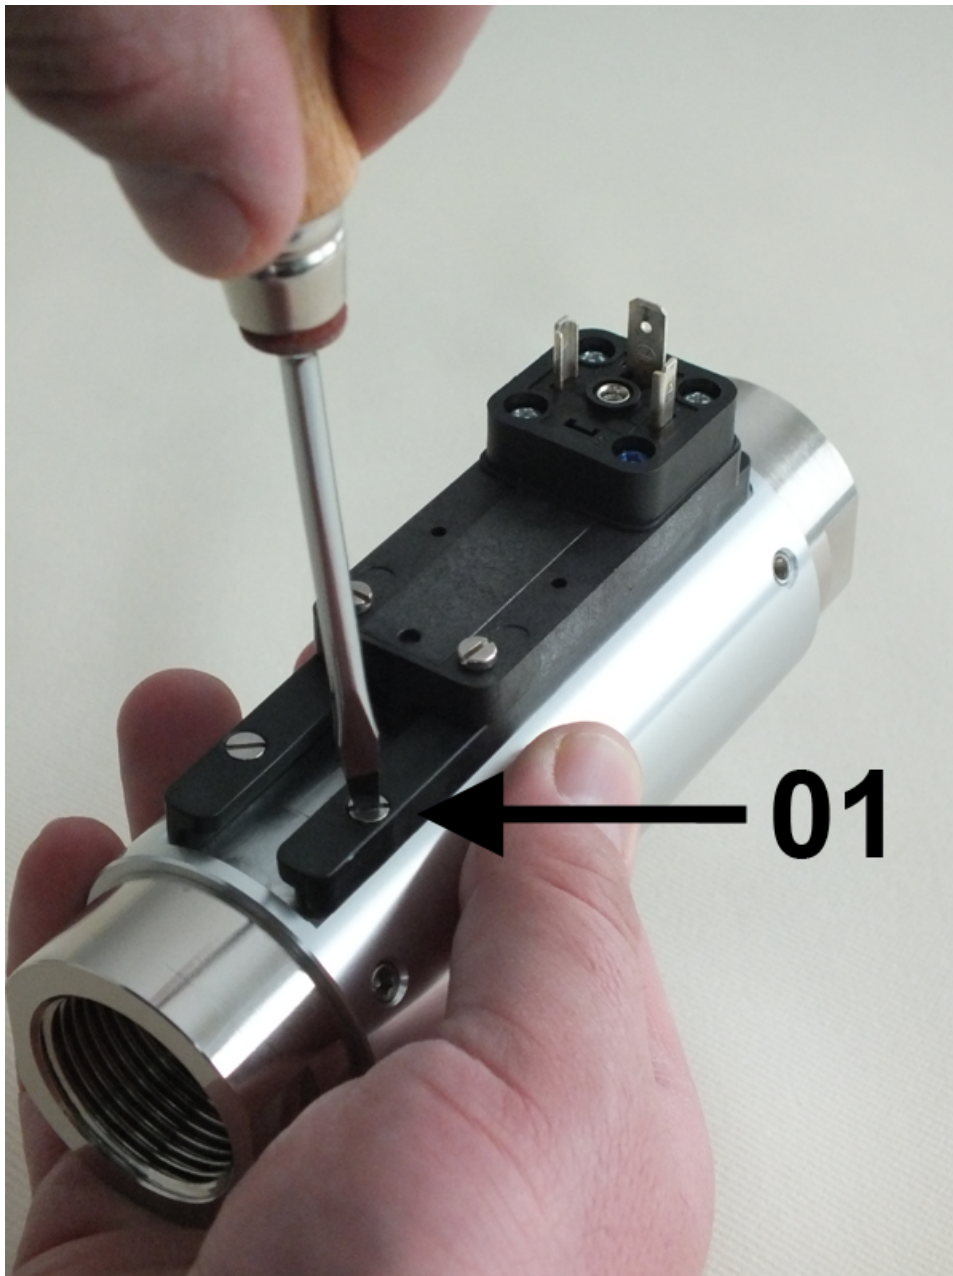

Fig. 62: Release the guide rail
4.  Loosen one of the two screws (*Fig. 62/1*) of the guide rail.
- 9.** ▶ Fasten the guide rail. (*Fig. 62/1*)